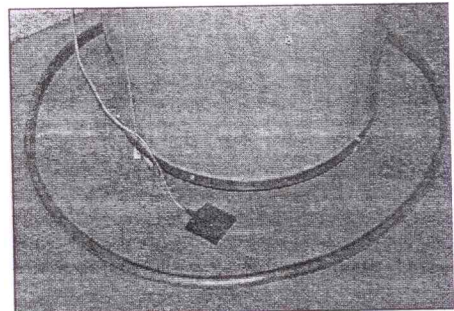

Figure 3
4. Install the Water Detector Pad under the water heater with the green circuit board down. The Detector Pad must lie flat on the floor or in a drain pan. Route the connecting cable to the Control Unit and insert the interlocking connector to the circuit board. **Figure 3**